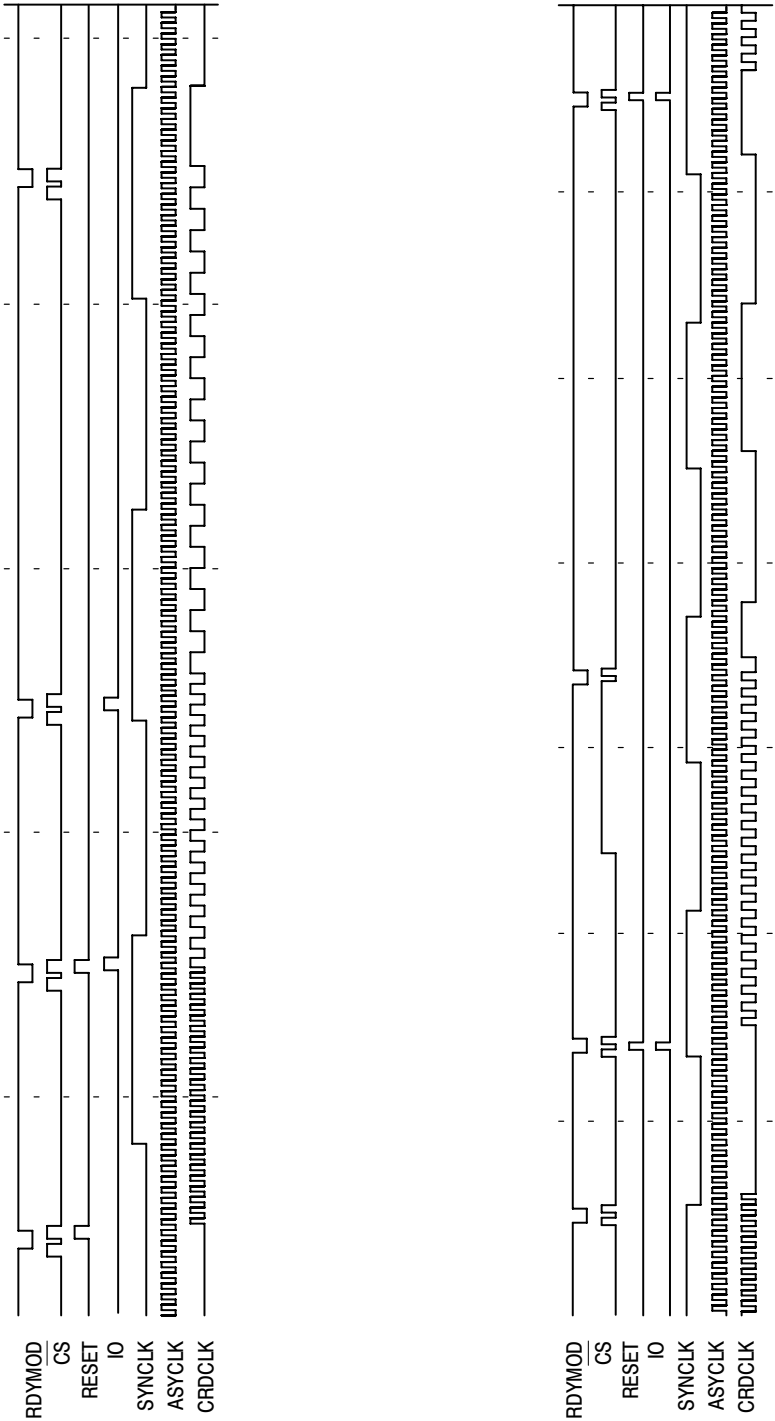

Figure 29. “On-the-Fly” Card Clock Selection Examples
Clock Signal Synchronization and Consistency (Figure 29). The clock divider includes synchronization logic that controls the switch from synchronous clock to asynchronous (and vice-versa), from any division ratio to any other ratio, during $\overline{CS}$ changes and at powerup. The synchronization logic guarantees that each clock cycle on the **CRDCLK** pin is finished before changing clock selection (and has always the adequate duration), regardless of the moment the programming is changed.
- Consistent clock signal, even when division ratio or synchronization clock signal are changed “on the fly” during a card session (Figure 29)